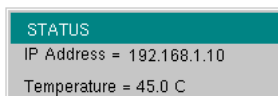

Figure 2-6. IP Address in Instrument Status Display
- a. Press the **Shift** key followed by the **System [8]** key, then press the **Status** soft key. The Status window opens. The IP address is listed first as shown in Figure 2-6.